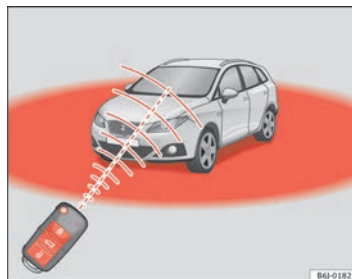

Fig. 45 Range of the remote control
Also, the battery indicator on the key \Rightarrow fig. 45, will flash.
- The remote control key functions only when you are within range ⇒ page 80, fig. 45.